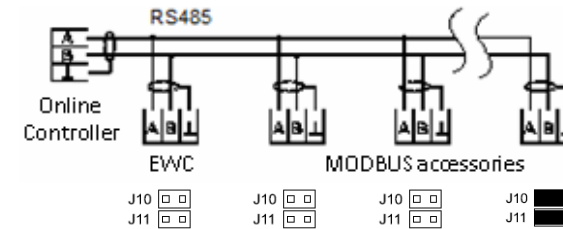

Figure 6
- a) Keep the jumpers J10 and J11 unconnected on the intermediate station or connect them on the end station. See Figure 6.